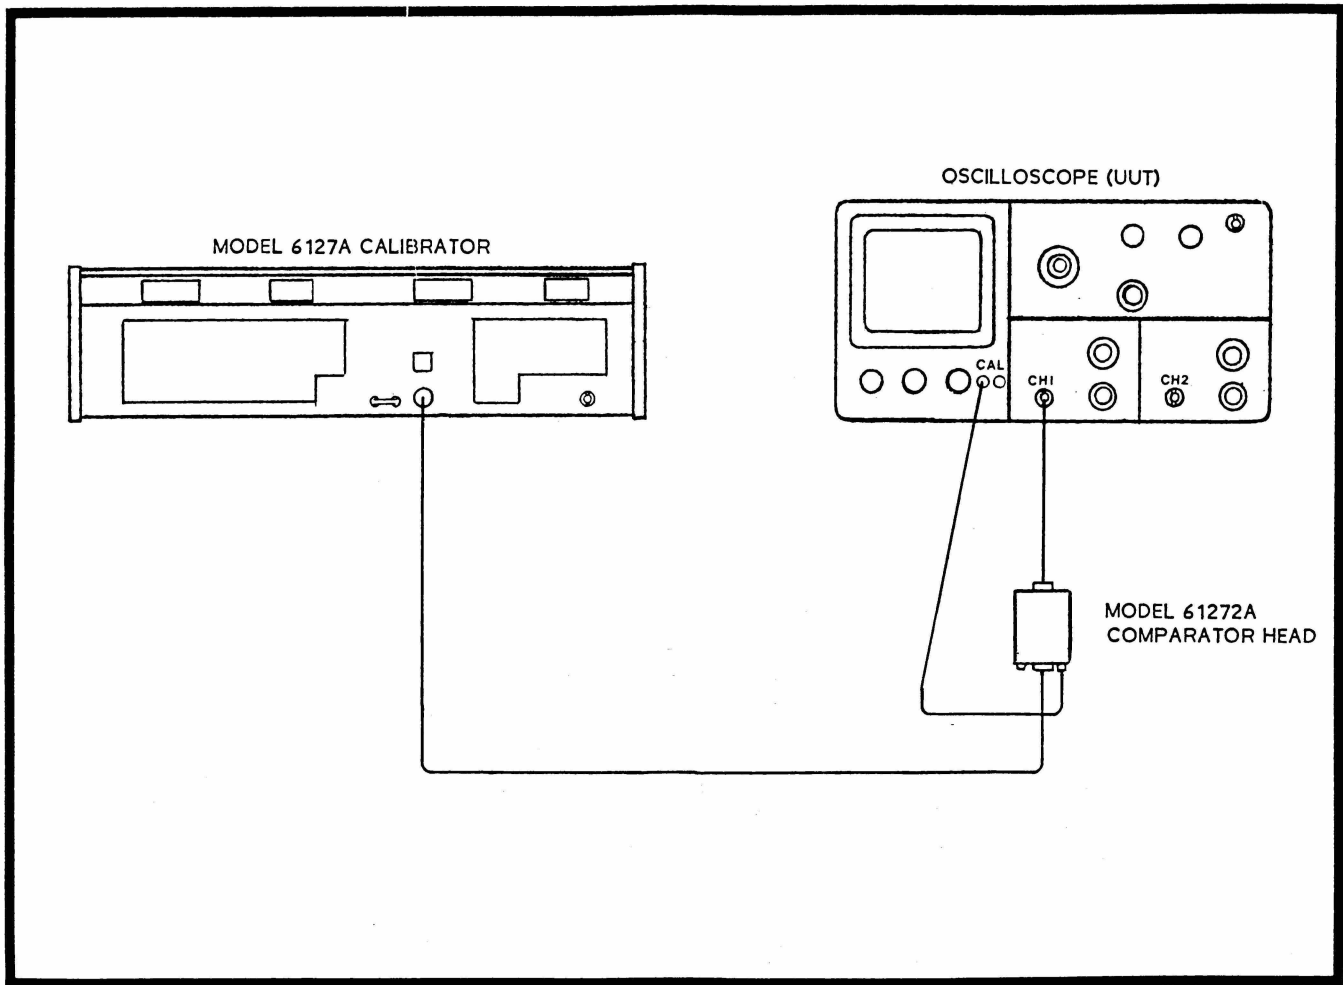

Figure 3-22. Amplitude Comparator Equipment Set-Up
a. Connect the FROM UUT CALIBRATOR BNC of the Model 61272A Comparator to the oscilloscope (UUT) internal amplitude calibrator, using a short length of coaxial cable. (See figure 3-22.) If the UUT internal calibrator has a range of voltages, start with the highest one first.